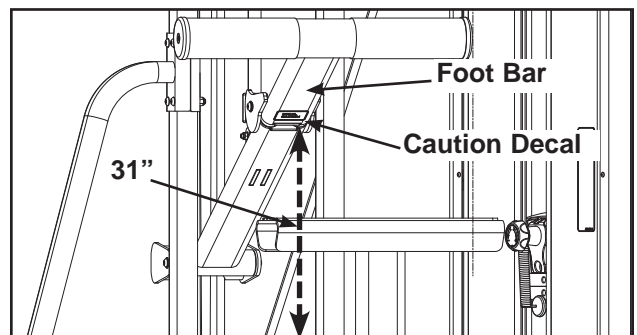

Figure 5
- E. Pull belt through clamp until input arm measures 31" from floor. **NOTE:** Measure from floor to lower edge of caution decal (located on foot bar). See Figure 5.